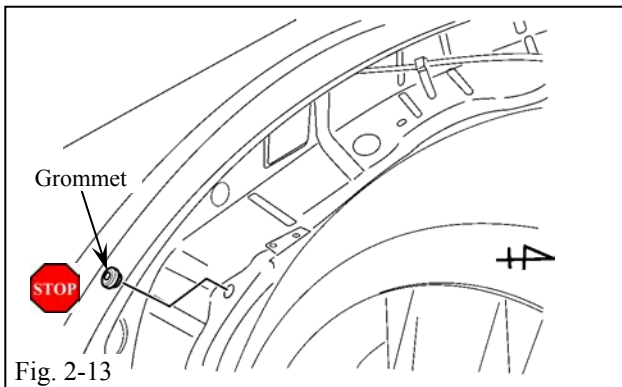

Fig. 2-13
- (q) Locate and remove the Grommet in the Passenger Side Fender Area. (Fig. 2-13)
- (1) Discard the Grommet.